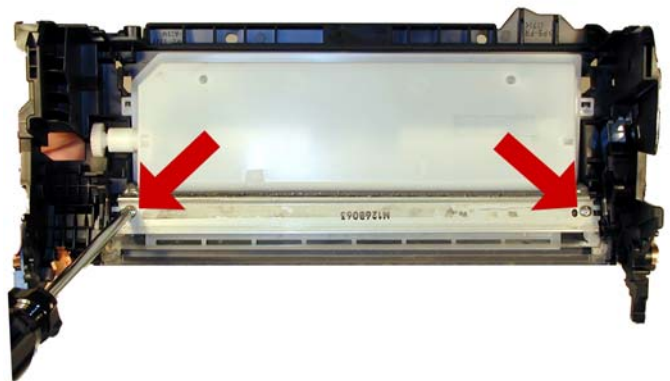

Figure 31
17) Lubricate the new wiper blade with your preferred lubricant. Install the blade and 2 screws. Make sure the wiper blade seal (which ever type you are using) seals along the back edge of the blade and around the sides. See **Figure 31**